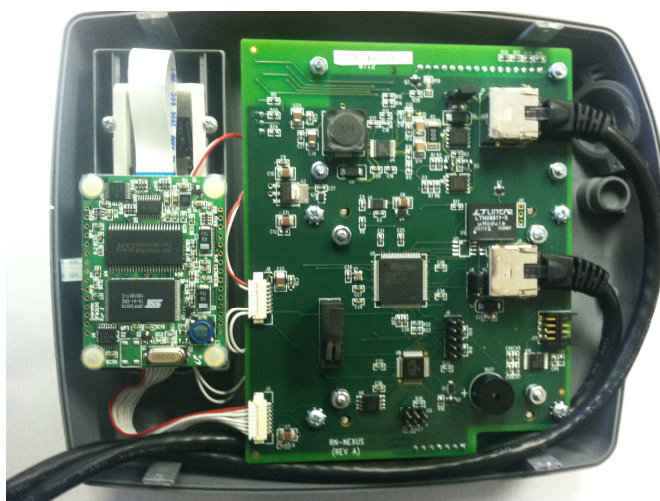

Figure 2
- Route the cables as shown in Figure 2.